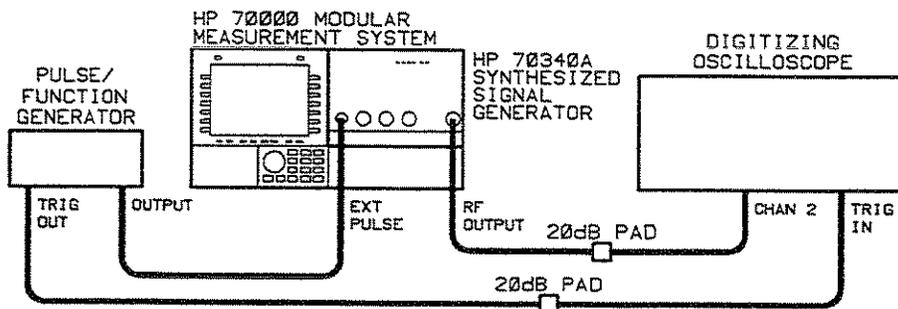

Figure 1-13. Pulse Rise/Falltime Test Setup
1. Connect the equipment as shown in Figure 1-13.